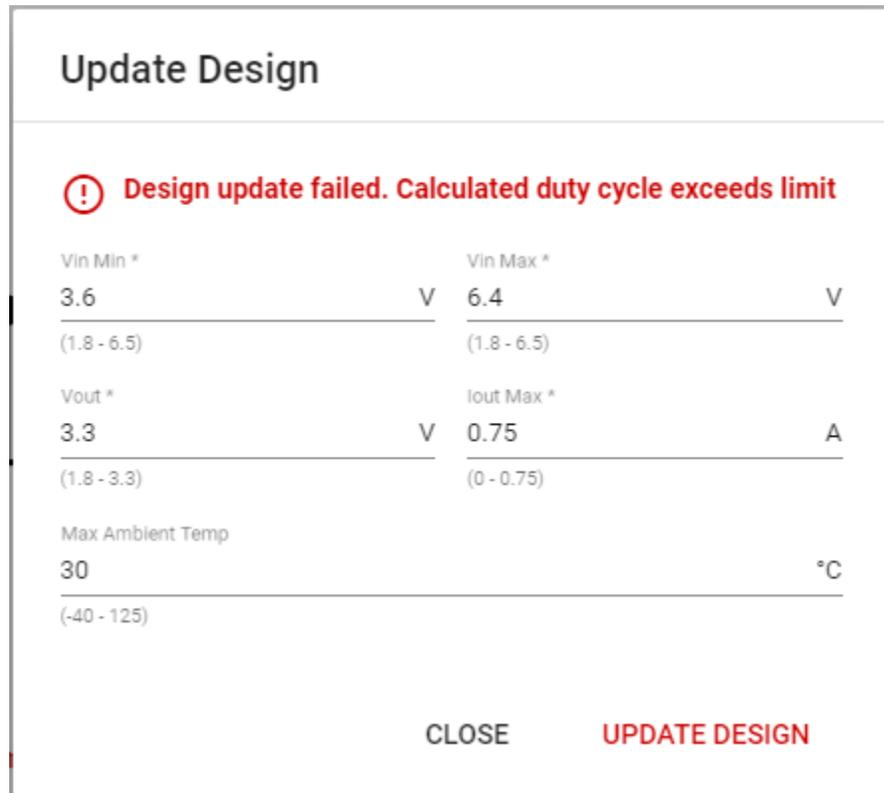

Figure 4. Error Message That the Duty Cycle Is Too High
- V_{IN} from 3.6 V to 6.4 V, $I_{OUT_MAX} = 0.75$ A and $V_{OUT} = 3.3$ V in the TPS62840 WEBENCH Power Designer model (Figure 4).